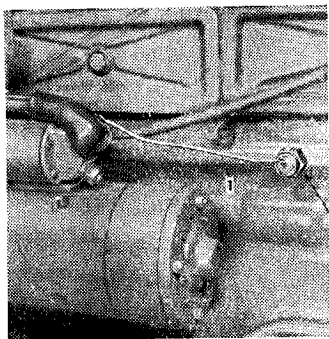

Fig. 42
1. Replace the oil pressure switch (Fig. 42):